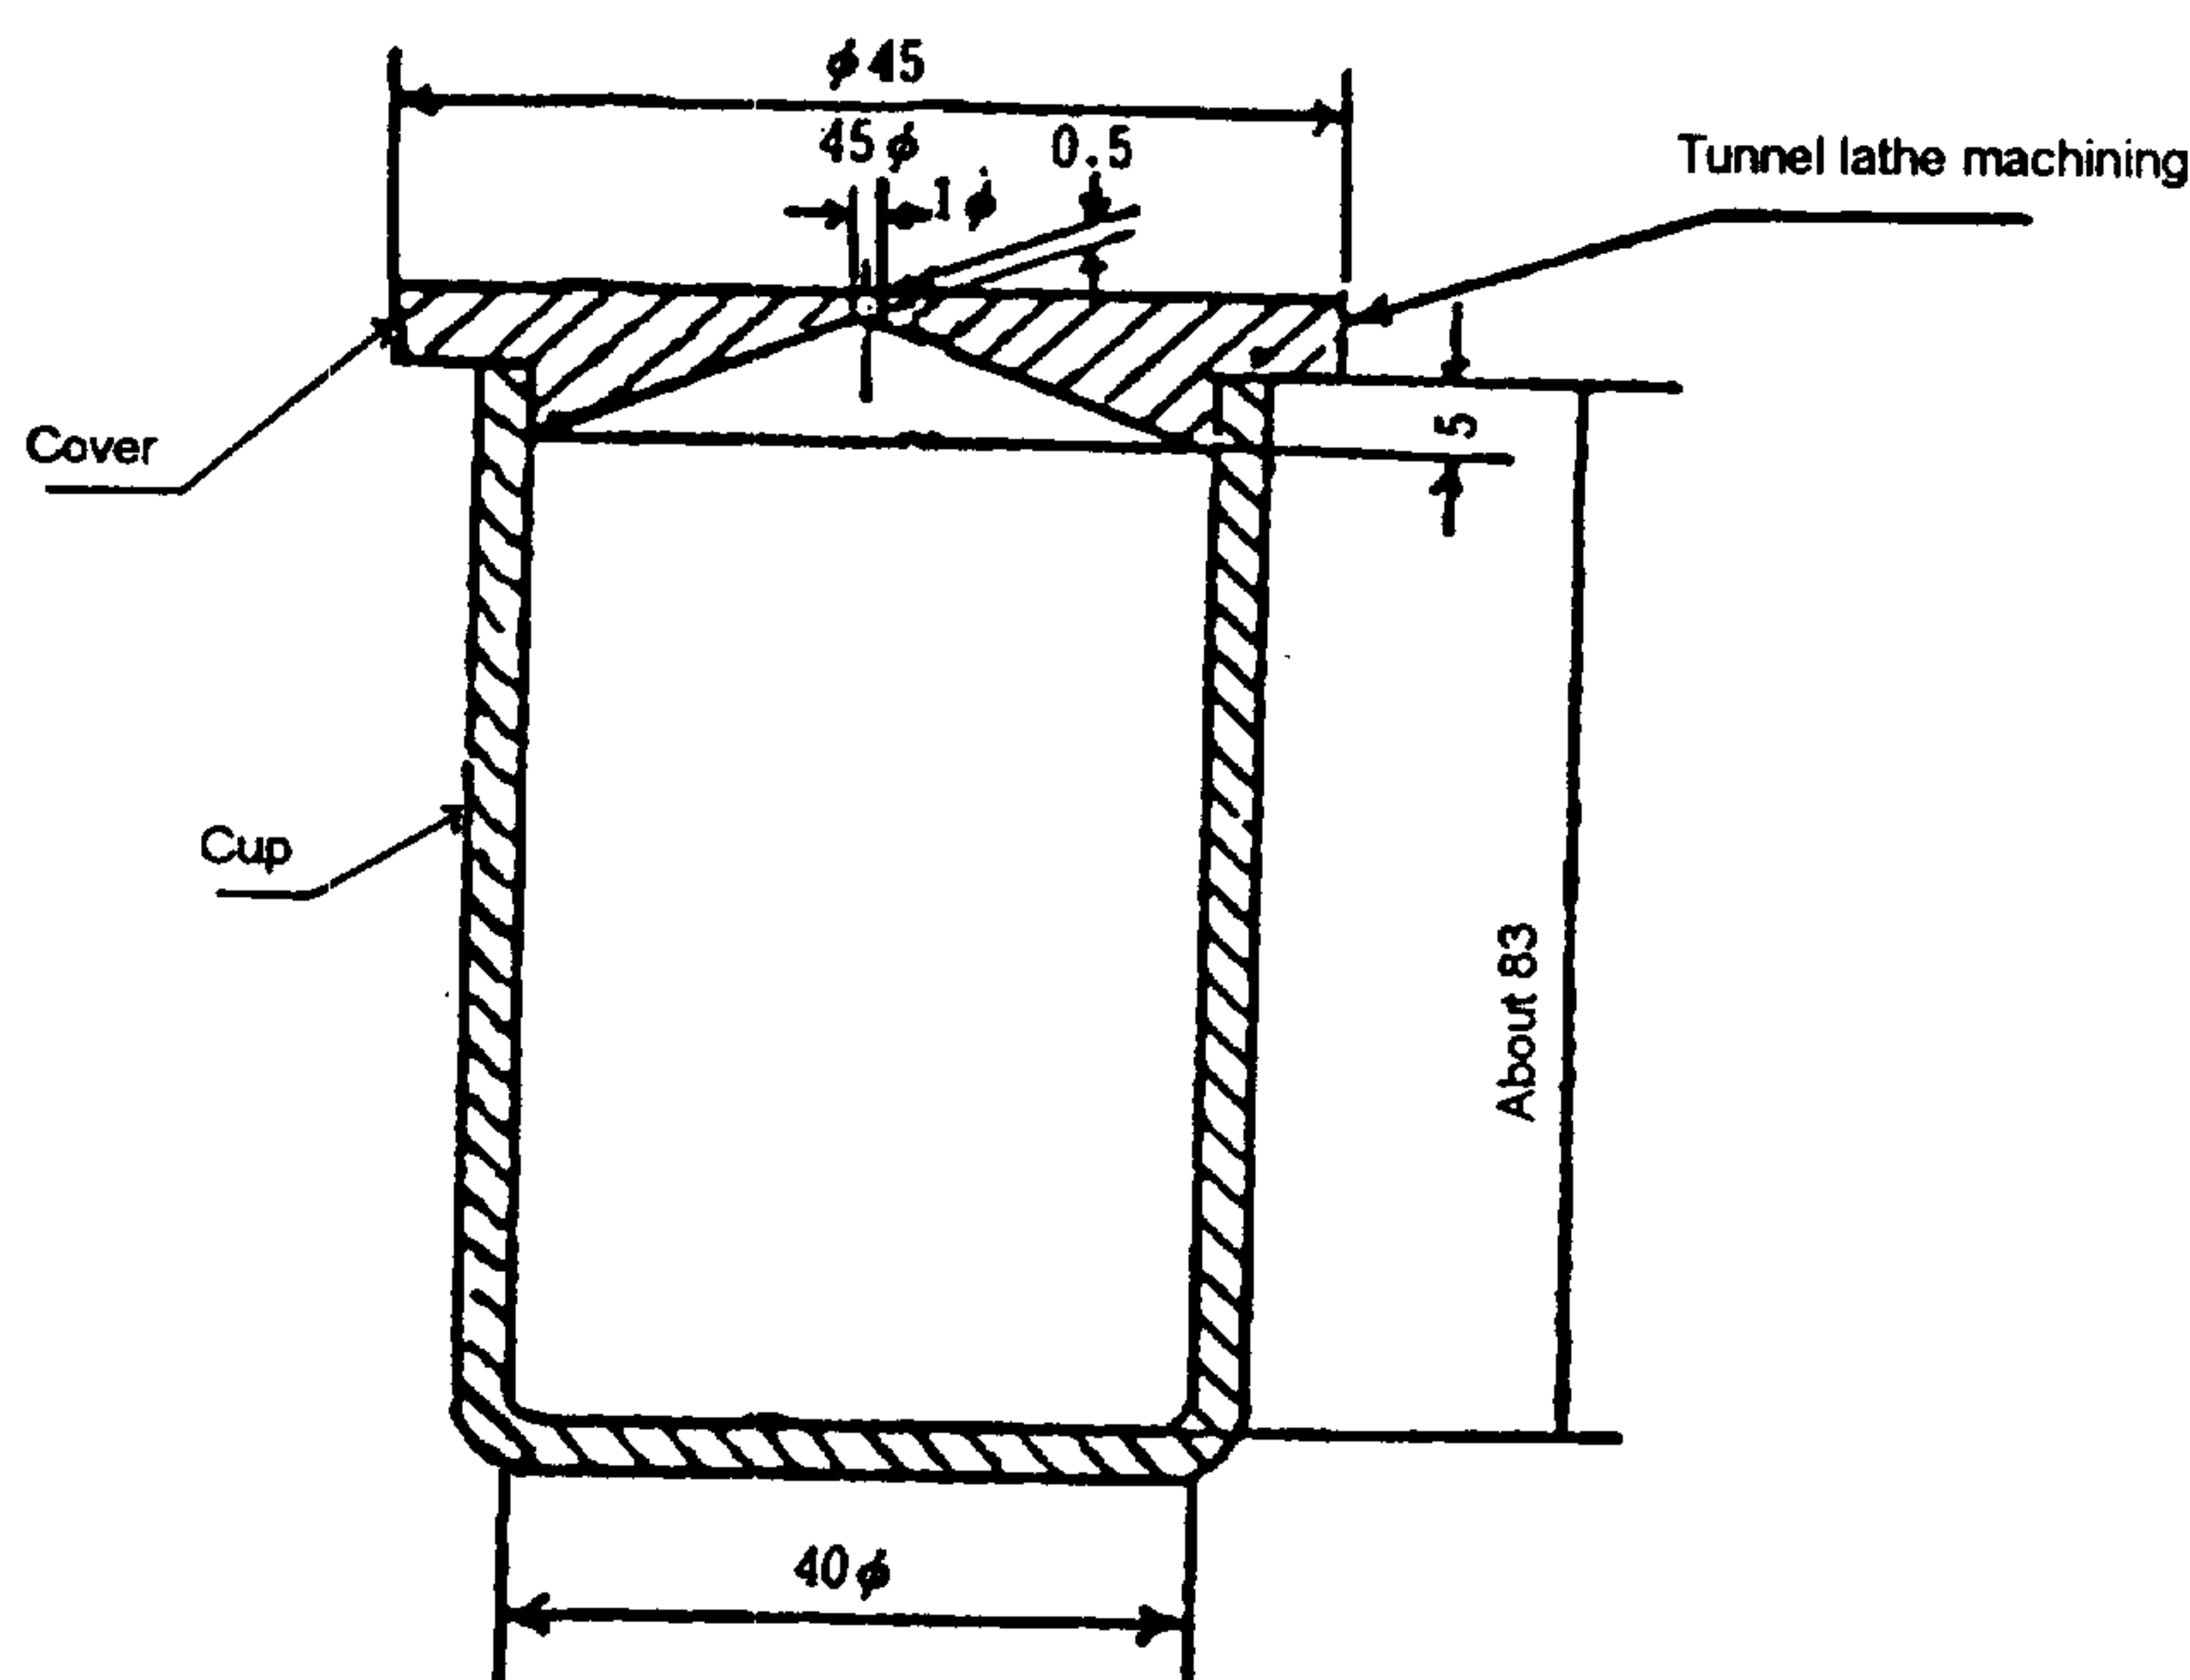

Figure 1 : Specific gravity cup
(1) Specific gravity cup : As shown on figure 1, it is made with brass, is plated with chrome. Cup is a cylinder made strongly so as not to deform and cover is excavated with inside tilted and has a small hole at its deepest place.